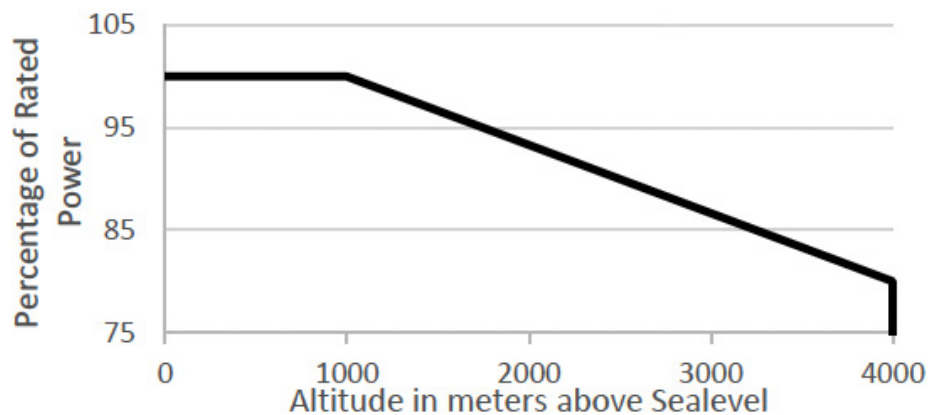

Figure 1: De-rating the MPPT-4K charge controller output power at high altitude
**Note:** At high altitudes natural thermal cooling of all electrical equipment is degraded. This is due to lower air density available to remove heat from the heatsink. The MPPT-4K is rated for altitudes up to 1000m above sea level. If it is going to be installed in an area where the altitude is greater than 1000m above sea level, refer to the power derating graph (Figure 1) to establish maximum continuous load.